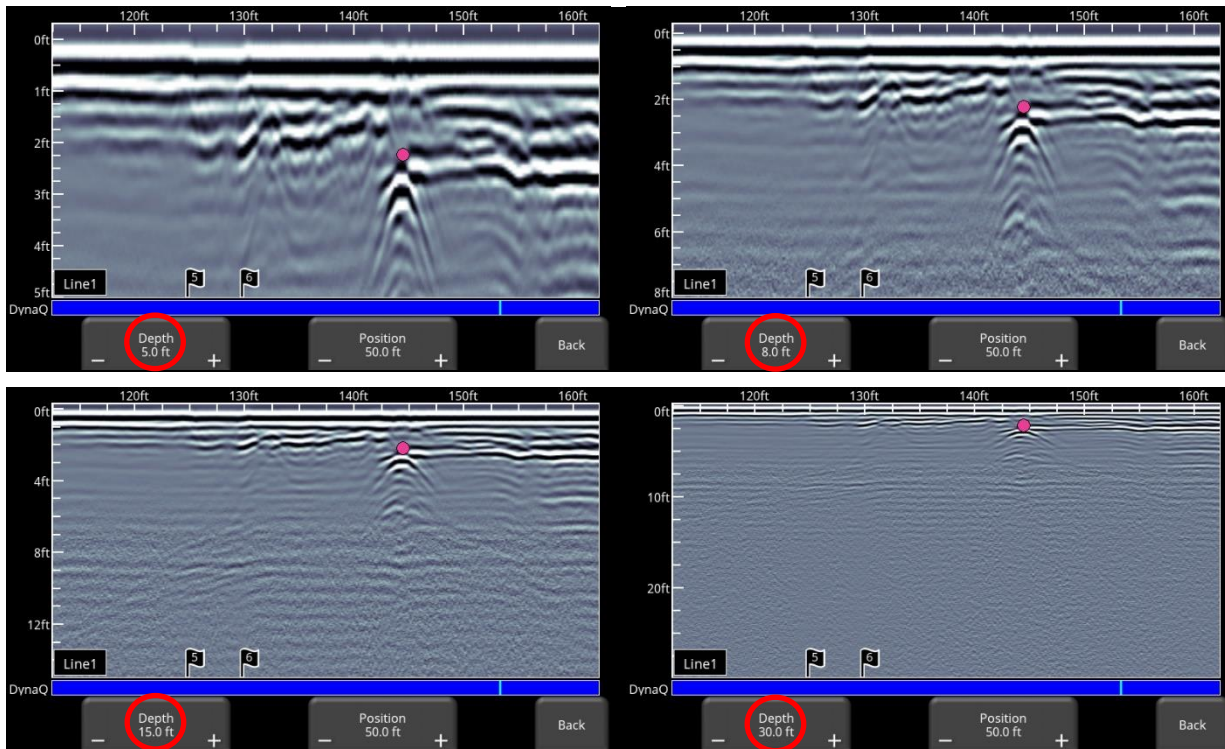

Figure 6-12: Varying displayed depth
- **Depth** – Pressing **+** and **-** under the **Depth** button allows you to change the display depth of the data. This is commonly referred to as the depth window. The pre-set values range from 1m to 8m (3' to 25'), see Figure 6-12.